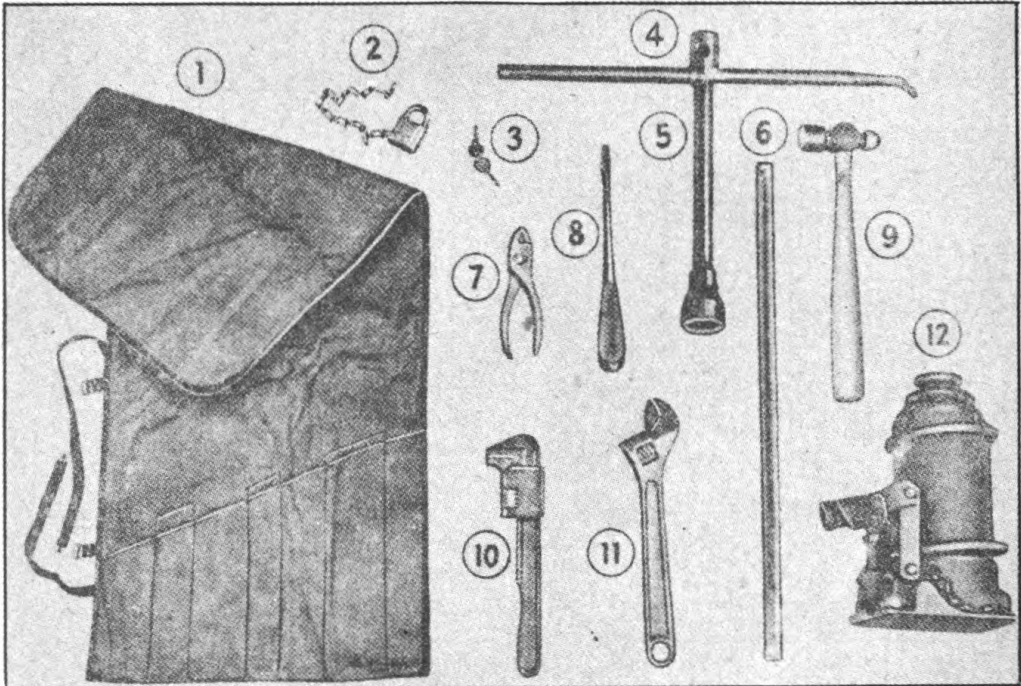

FIGURE 6. TOOLS.
2. TOOLS.—Tools issued with the vehicle are illustrated in (Figure 6).